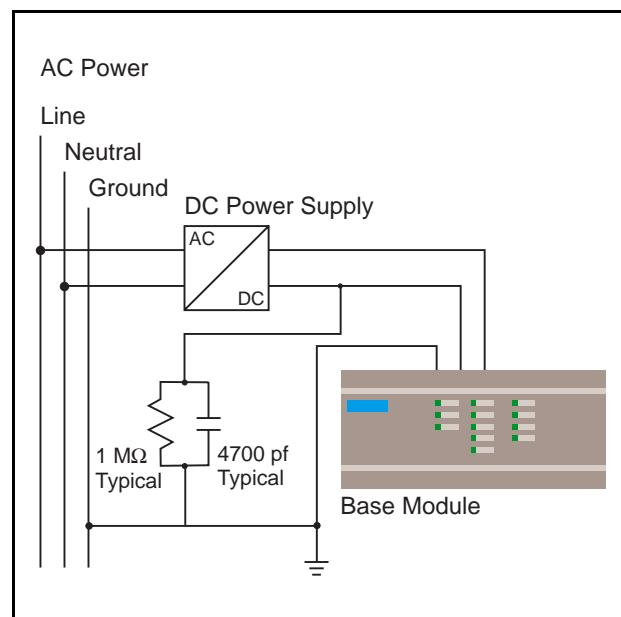

Figure 4.1 DC Supply connection
- For ungrounded DC power supplies, connect a resistor and capacitor in parallel from the power source common to ground. The resistor (1 MΩ typical) provides a leakage path to prevent static charge accumulation. The capacitor (4700 pf typical) provides a drain for high-frequency noise. A grounded DC system may also be created by connecting the power source common directly to ground. See **Figure 4.1** below.